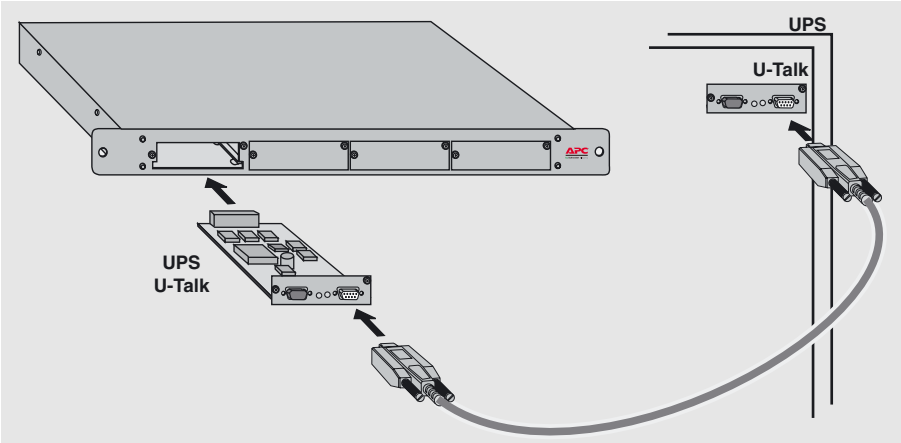

Fig. 7
Figure 7 shows connection of the **MultiSlot** module to a UPS using an acquisition card intended for a U-Talk/Basic communications port. Consult the user manual of the card concerning configuration in the U-Talk or Basic modes. The cable for connection to the UPS is supplied with the acquisition card.
- ▶ check the connection between the **MultiSlot** module and the UPS (see figures 7, 8 and 11),